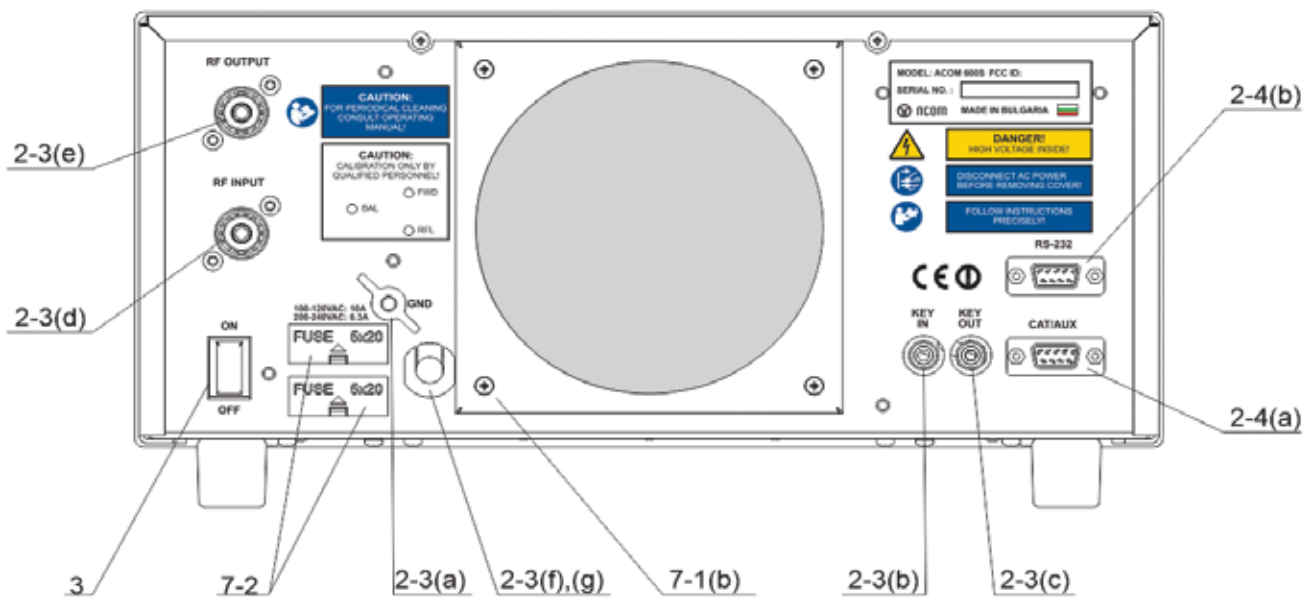

Fig. 2-1 Rear panel connections
The linear amplifier ACOM 600S is apparatus Class I of protection against electric shock, i.e. the third grounding lead of its mains cord (colored yellow with two green stripes) and the grounding stud on the rear panel, marked GND (Fig. 2-1), must be connected to the grounding system of the shack for safe operation.
- a) GND stud - external grounding connection of the amplifier. After having made strictly all check-ups described above, first connect the grounding stud of the amplifier (located on the rear panel and marked GND – Fig. 2-1) to the grounding system of the shack.
Connect a shielded cable from the respective control output of your transceiver, providing “ground on transmit” (PTT), to the KEY-IN input on the amplifier rear panel (RCA PHONO jack socket – Fig. 2-1). Use a standard “RCA PHONO” jack plug for connection to the amplifier.
If your amplifier has only one mounted mains fuse (Fig. 2-1 / S. 7-2), it is suitable ONLY for power mains networks of the type 0-220/240VAC, which are standard in the EU.
For control of the amplifier through the CAT/AUX interface you need a special cable between the transceiver and CAT/AUX connector (type HD-15) on the rear panel of the amplifier – Fig. 2-1. Such a cable can be supplied as an option along with the amplifier or you can buy it from your dealer additionally, but you can assemble it yourself as well, using information from table 2-1 and your transceiver's manual.
After having mounted and connected the amplifier according to the instructions in Section 2 INSTALLATION and have followed all requirements, check whether mains switch on the rear panel is in turned-off position – in Fig. 2-1 the rocker of the POWER ON switch must be protruding from the side of the “ON” inscription. Afterwards insert the mains plug of the amplifier into the mains outlet prepared for it. For now the amplifier remains turned off.
Now you can put the mains switch on the rear panel in a turned-on position, pushing its rocker so that it sinks from the side of the “ON” inscription (Fig. 2-1). This will activate only the low-energy (waiting) mode of the power supply and will illuminate the red LED above button ON/OFF on the front panel, while the main power supply is still inactive and the display is dark.
- b) LED indicator above the ON/OFF button. The red LED indicator glowing above the ON/OFF button at a dark display shows that mains voltage is fed from the plug, the POWER ON switch on the rear panel (Fig 2-1) is in a turned-on position, but the power supply is in its low-energy (waiting) mode (S. 3-1). In this mode activation of the main power supply is expected to start operation with the amplifier.